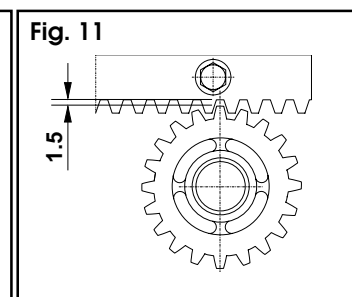

Fig. 11
*Caution:* if the gate is new, check the slack (fig. 11) after a few months.